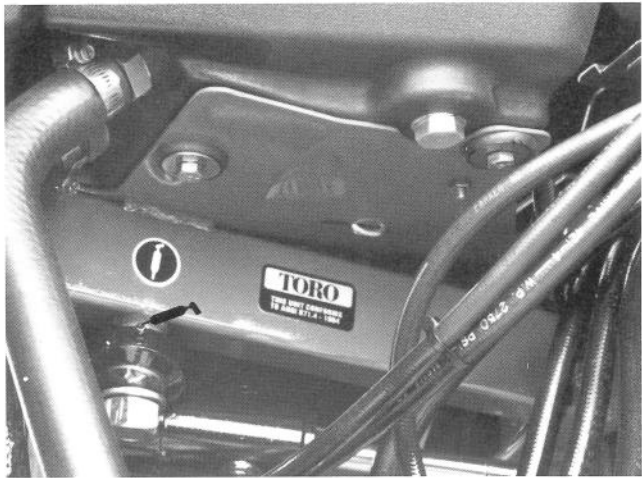
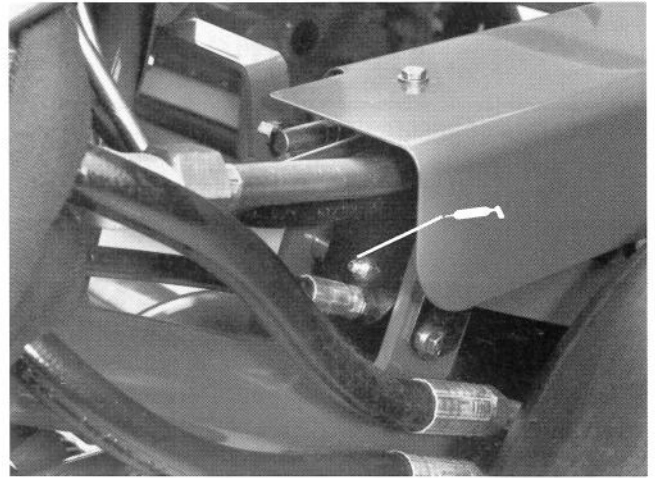
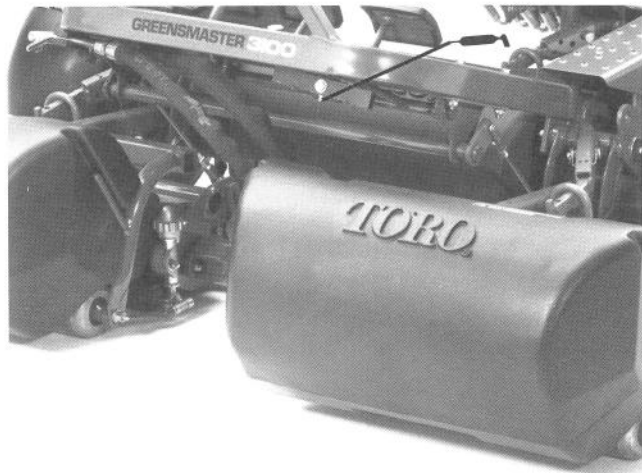

Figure 28
Figure 30
Figure 29
The traction unit bearings and bushings that must be lubricated are: Rear wheel bearings (1) (Fig. 24), Steering fork shaft (1) (Fig. 25), Lift arm pivot (3), Pivot hinge (3) (Fig. 26), Pull frame shaft and roller (12) (Fig. 27), Power steering cylinder (1) (Fig. 28), Mow lift pivot (1) (Fig. 29) and Lift cylinders (3) (Fig. 30)